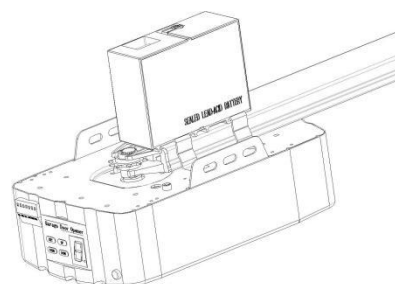

Figure 12
STEP2 (Fig.12)
Join the battery to opener, find the Fig.12.